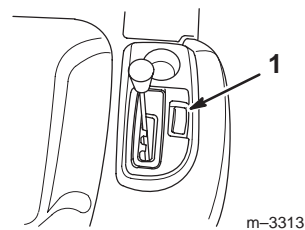

Figure 18
The cruise control is a switch (Fig. 18) on the right fender that maintains a set traction control position without foot pressure. The cruise control only operates when moving forward.
2. While holding your foot steady on the traction control pedal, push the cruise control switch (Fig. 18) to the set position.
- While holding your foot steady on the traction control, move the cruise control switch to the off position (Fig. 18).